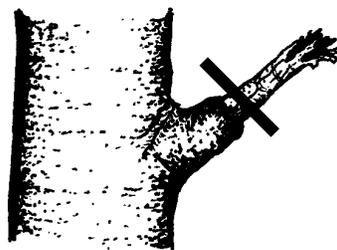

Figure 7. When removing a dead branch, do not cut into or otherwise damage the branch collar or woundwood growing around the dead branch.
**When removing a dead branch**, the final cut should be just outside the branch collar of live bark tissue. If the branch collar has begun to grow out along the branch, remove only the dead stub, leaving the collar intact. Do not cut into living tissues. [Figure 7]